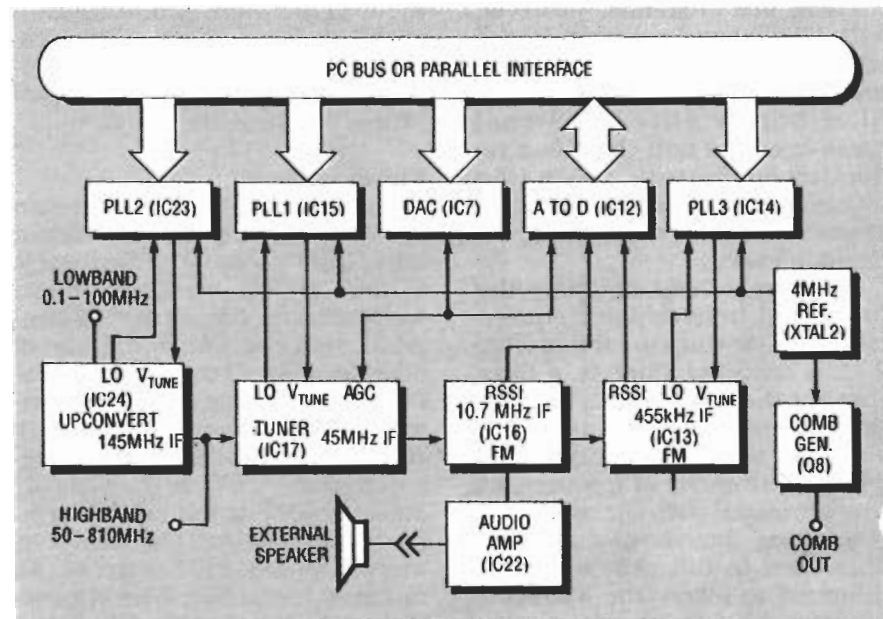
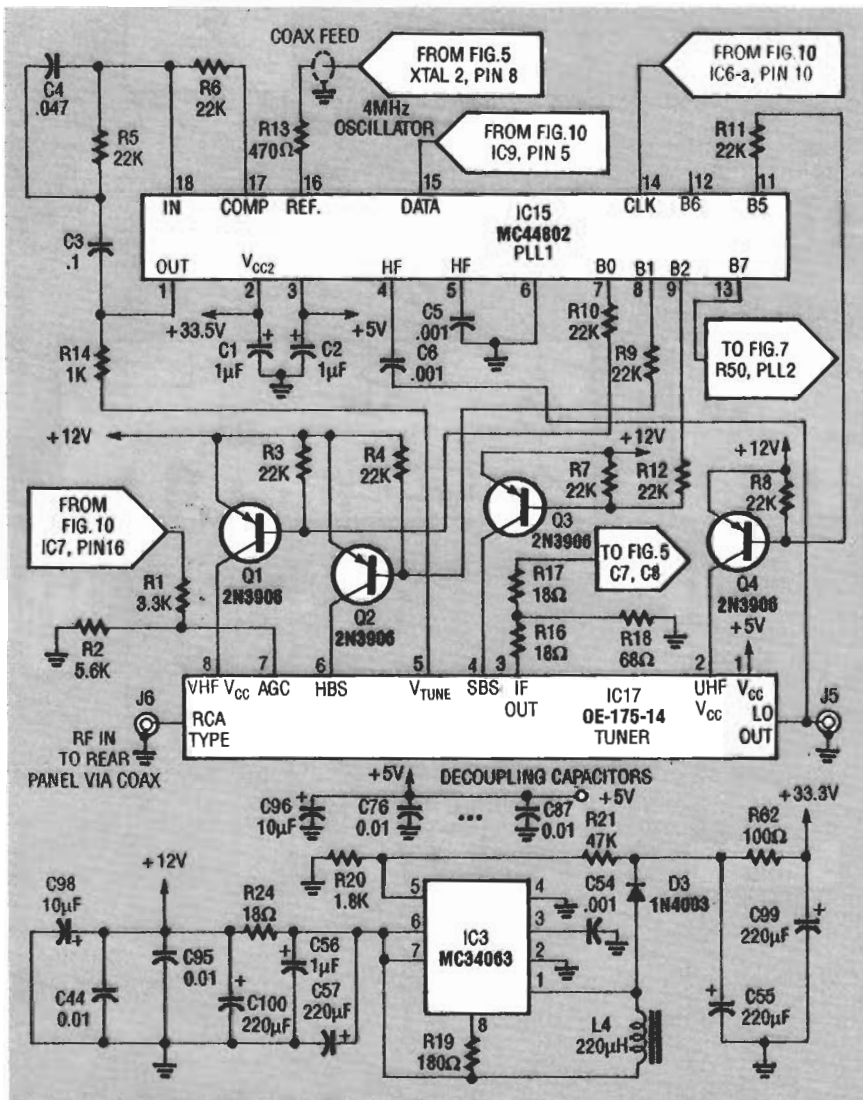

FIG. 3—A BLOCK DIAGRAM OF THE SPECTRUM ANALYZER shows the tuner module, phase-locked loops, receiver blocks, DAC, ADC, and the PC bus connection.
FIG. 4—THE FIRST 45-MHz IF STAGE. The tuner takes highband inputs from 50–810 MHz and converts them to 45 MHz.
Figure 3 shows the overall block diagram of the spectrum analyzer. At the heart of the unit is a Zenith tuner module (IC17). The tuner takes highband inputs from 50 to 810 MHz and converts them to a 45-MHz IF, which is the first IF stage. After that conversion, the first of two Signetics NE615 receiver IC's (IC16) down-converts the 45-MHz IF to a 10.7-MHz IF, which is the second IF stage. The 10.7-MHz IF is tapped off and sent to another NE615 (IC13) where the 10.7-MHz is down-converted to the standard 455-kHz IF, which is the third IF stage.
Figure 4 shows the circuit of the first 45-MHz IF stage. Of the four local oscillator's (LO's) used, three are phase-locked using Motorola's MC44802 IC (IC14, IC15, and IC23). The LO for the 10.7-MHz IF is crystal-controlled by XTAL1. The PLL's used for the tuner IC also perform band switching, which will be discussed in more detail below. Those PLL's are self contained and have a serial interface. A 4-MHz crystal oscillator (XTAL2, Fig. 5) is used as a common reference for all the PLL's, as indicated in the block diagram (Fig. 3).
As shown in the block diagram (Fig. 3), an 8-bit DAC (IC7) controls the automatic gain control (AGC) input of the tuner. AGC cancels out gain variations and provides signal attenuation. An 8-bit shift register (IC8) is used to provide IC7 with a serial interface to the host PC.
width, follows the mixer. The local oscillator (LO) must be 45 MHz above the input signal to mix to the 45-MHz IF. For the 50 to 810-MHz bandwidth, the tuner VCO must have a range of 95 to 855 MHz. The LO from the tuner is internally buffered and is sent to PLL1 (IC15, Fig. 4) for frequency locking.
The 45-MHz IF is fed through a 6-dB attenuation pad (R16–R18, Fig. 4) and a tuned circuit to the mixer for the 10.7-MHz IF. The attenuation pad is used to reduce signal gain from the tuner and to provide a wide-band termination for the output of the tuner mixer. The tuned circuit, consisting of L1, C8, and C7 (as seen in Fig. 5), acts to match impedance, filter, and to adjust the voltage gain. The tuning of L1 (Fig. 5) affects the overall gain and noise floor of